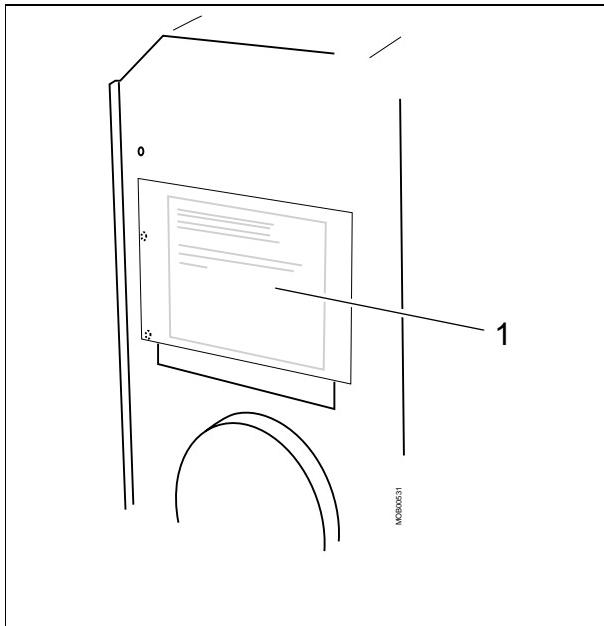

Fig. 1
- Remove the cover with the warning sign (pos. 1 / Fig. 1).